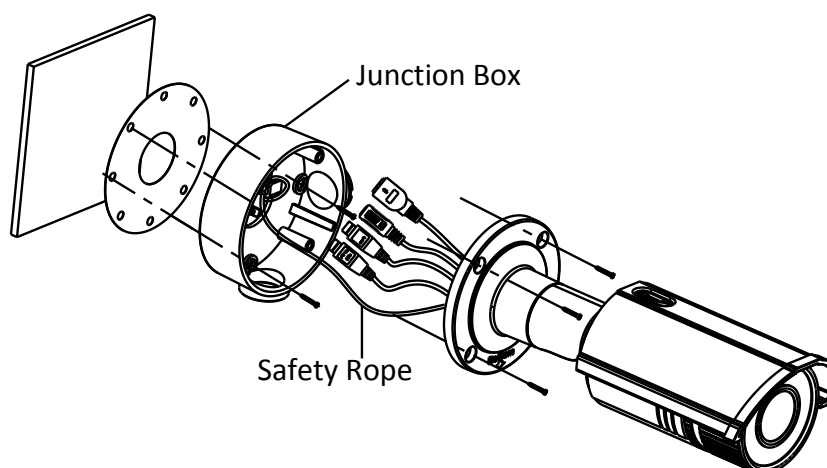

Figure 5-30 Secure the Camera
8. Hook the camera to the junction box with the safety rope. Refer to the Figure 5-30.